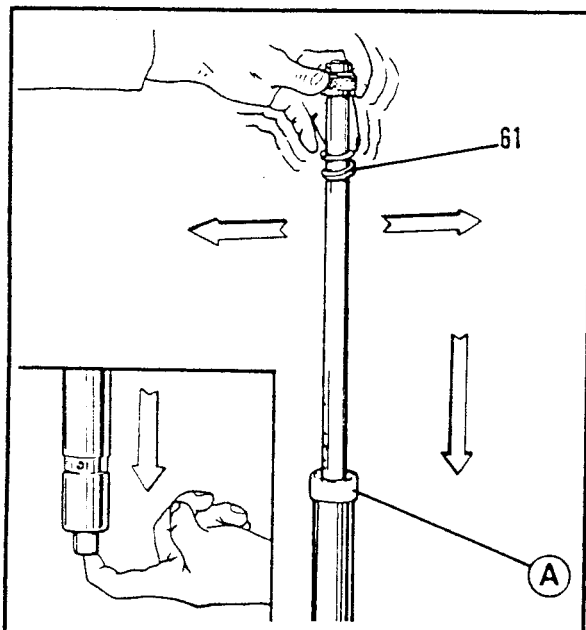

Figure 5-26. Damper Rod Assembly
4. See Figure 5-26. To assemble, use a guide ring, (A), inserted on the top of the tube. Install the rebound